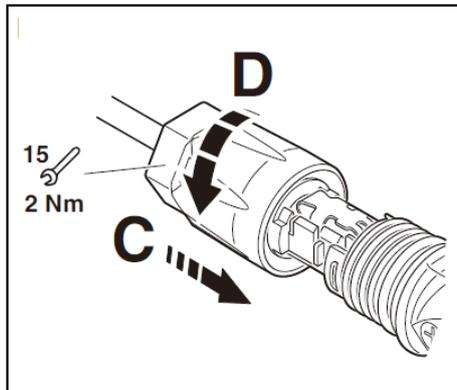

Figure 5-13
6. Push the insert into the sleeve (Figure 5-13, C).
7. Tighten the cable gland to 2 Nm (Figure 5-13, D) Use a suitable and calibrated torque wrench, size 15. Use an open-jaw wrench, size 16 to hold the connector in place.